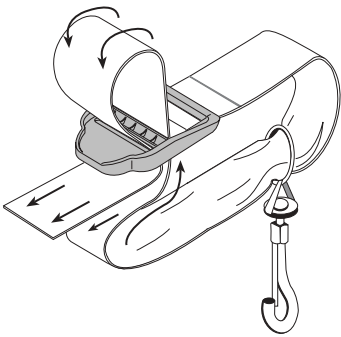

Fig. 11
2. Pull the strap over the cross bar and down through the slot in the buckle (Fig. 11).